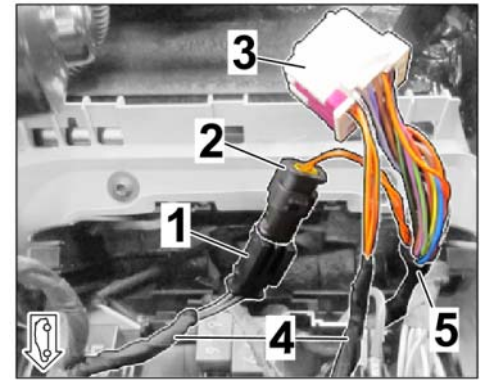

Figure 30
2.5.5 Change pin assignment of lines OG/BN / OG/BK in the connector (17-pin, white) as follows (⇒ *Figure 30*):